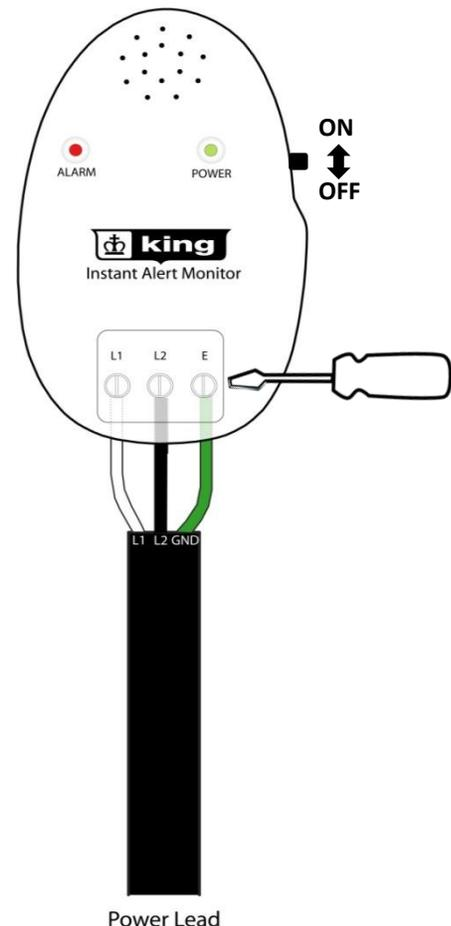

Figure 1
- 2.a **For One Cable or Mat: See FIG 1**